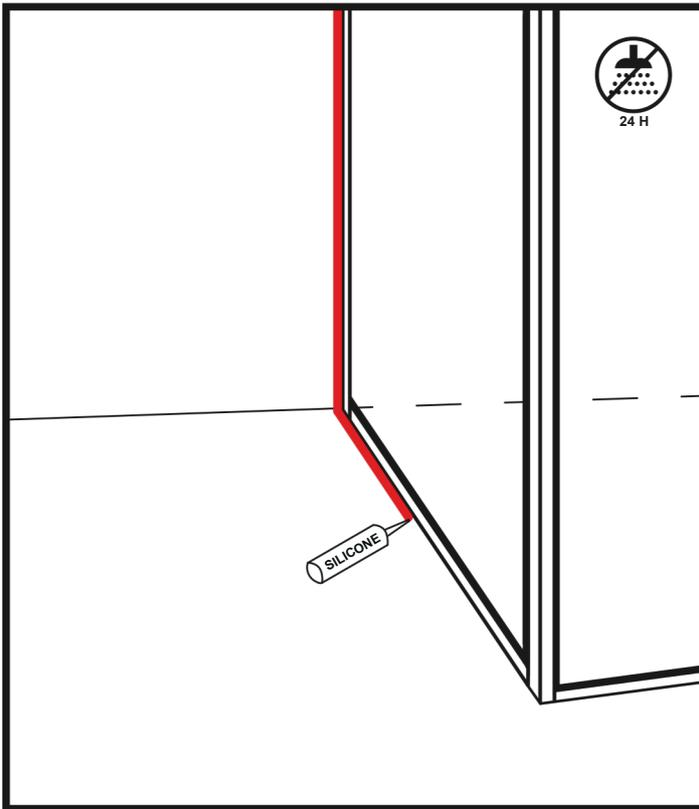
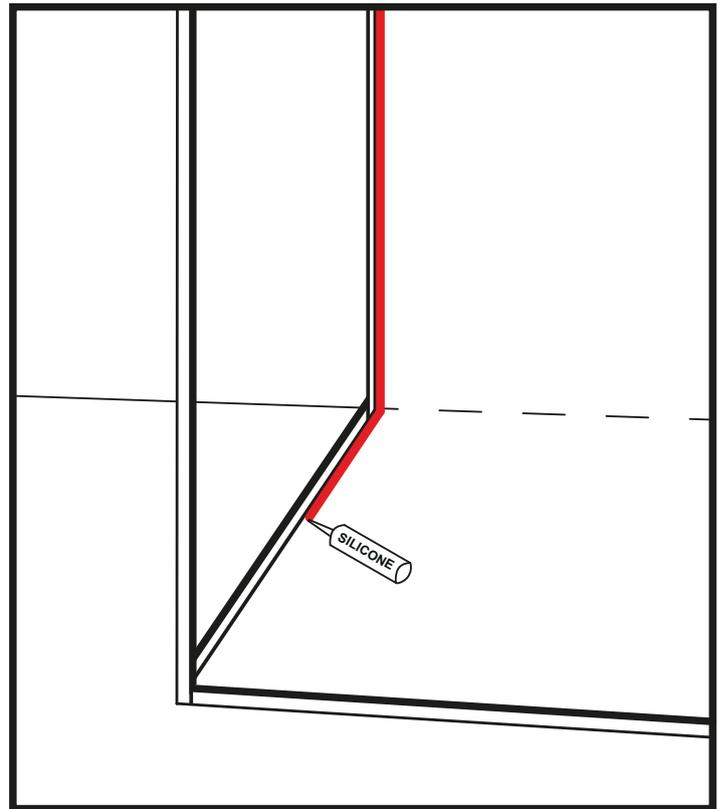

Figure 20
Figure 21
51. Apply an even bead of silicone to the edges of the U-profiles on both the inside (Figure 21) and outside (Figure 20) of the shower enclosure.